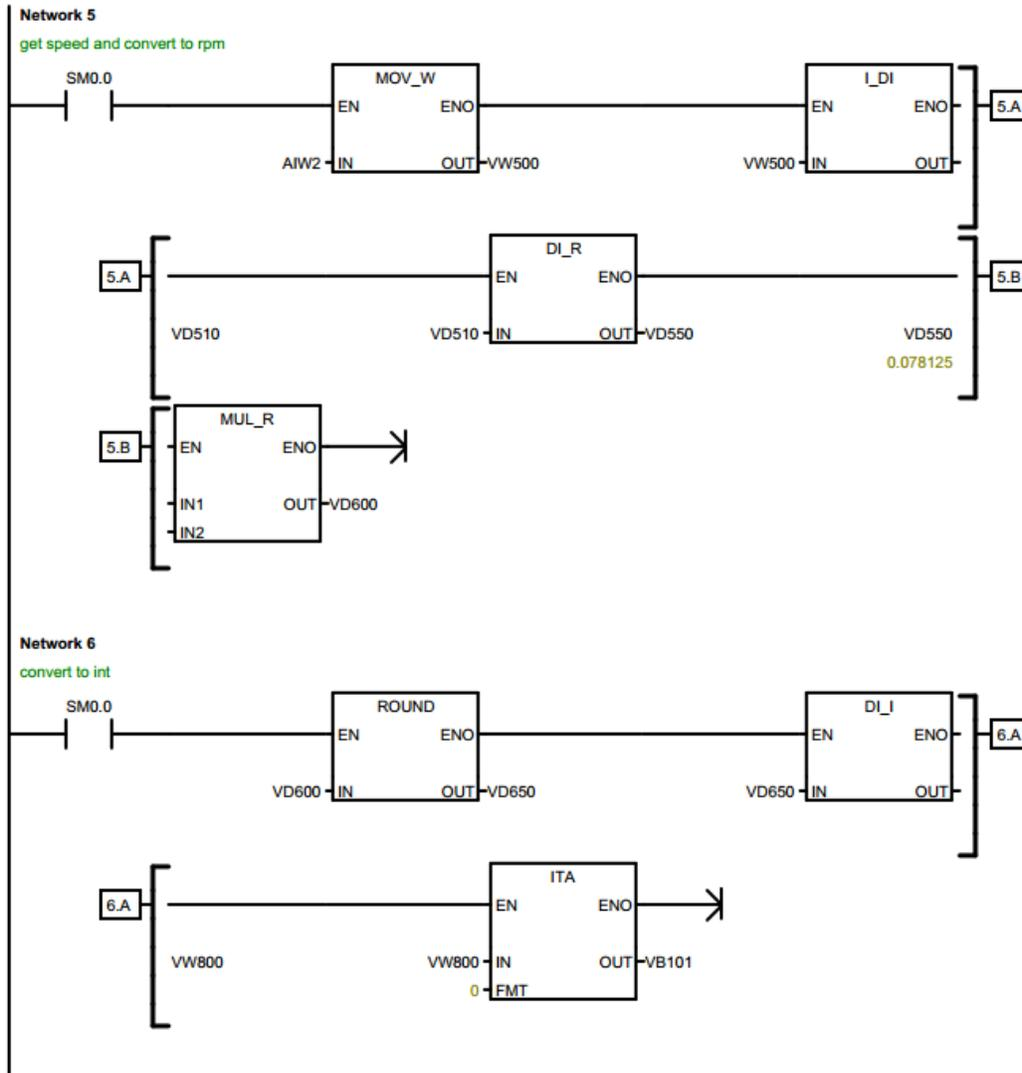

Figure 10
The table is created by predefining the number of characters to transmit (10), then filling the table using the ITA (integer to ASCII) command (see fig. 10) in Format '0'. Meaning it outputs whole numbers with no decimal or comma, it will always output 8 Characters. The Arduino stop character ";" is added to the last position of the table (this is done in the data block of the program).